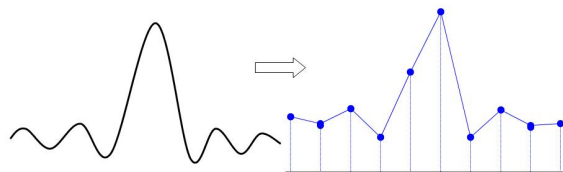

Figure 10-1
(2) The influence of low sampling rate
- ① **Waveform Distortion:** Due to low sampling rate, the details of the waveform might be missing, the sampling waveform might be different than the actual signal. As shown in Figure 10-1.